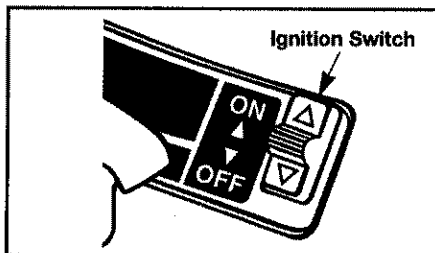

Fig. 6
2. Put the **IGNITION SWITCH** IN THE **"ON"** POSITION (Fig. 6).
10. To stop the engine, put the **IGNITION SWITCH** IN THE **"OFF"** POSITION (Fig. 6).